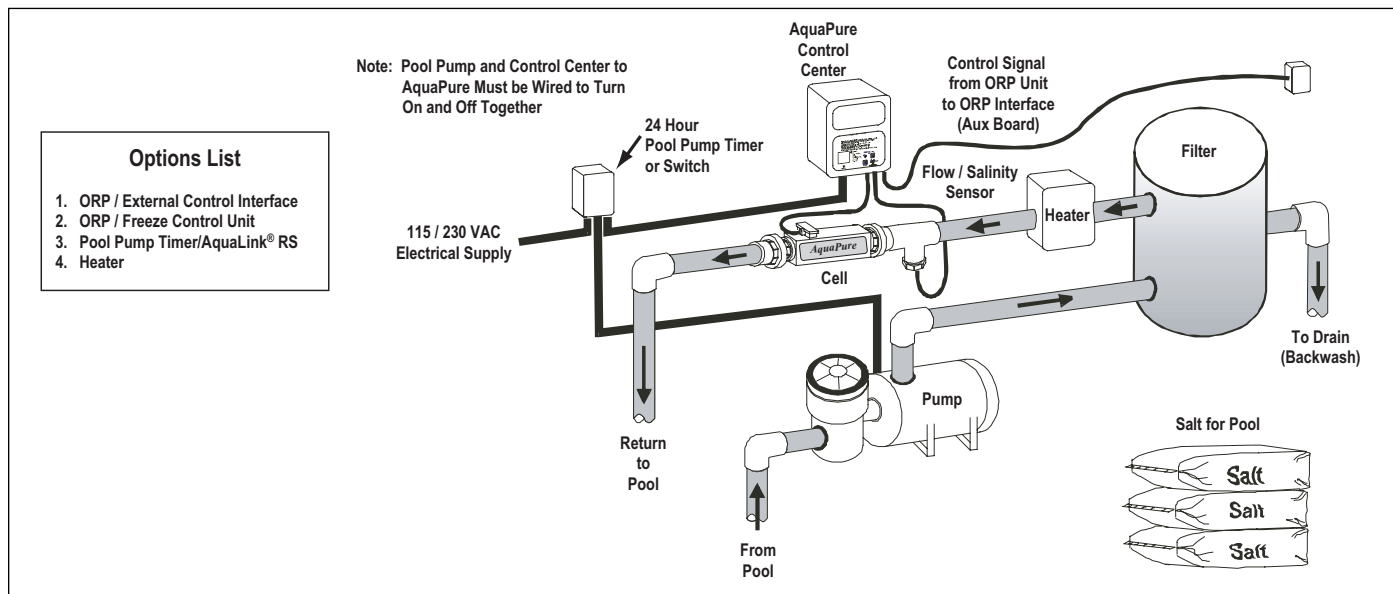

Figure 1. Typical AquaPure Installation With Options
It is recommended that the water Flow/Temp/Salinity Sensor is installed in the same piping as the electrolytic cell, without any valves or diverters between them. (See page 5 Figure 1).
3. Position the Flow/Temp/Salinity Sensor Tee and Cell in the recommended position (See Figure 11 Detail A) and (page 5 Figure 1).